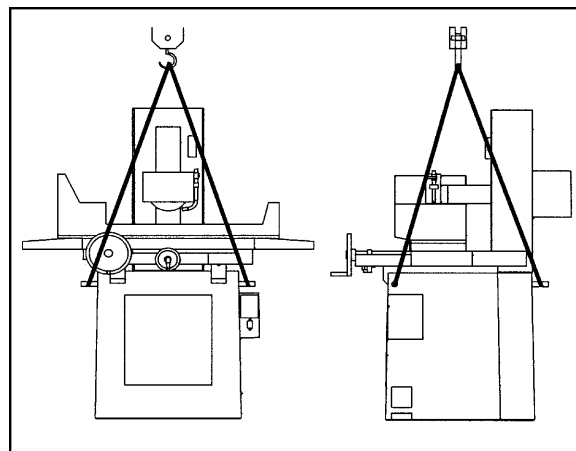

Figure 1
5. Use nylon straps that are rated for the proper weight of the machine to be lifted. See specifications. Attach the straps to the lifting bolts. See Figure 1.